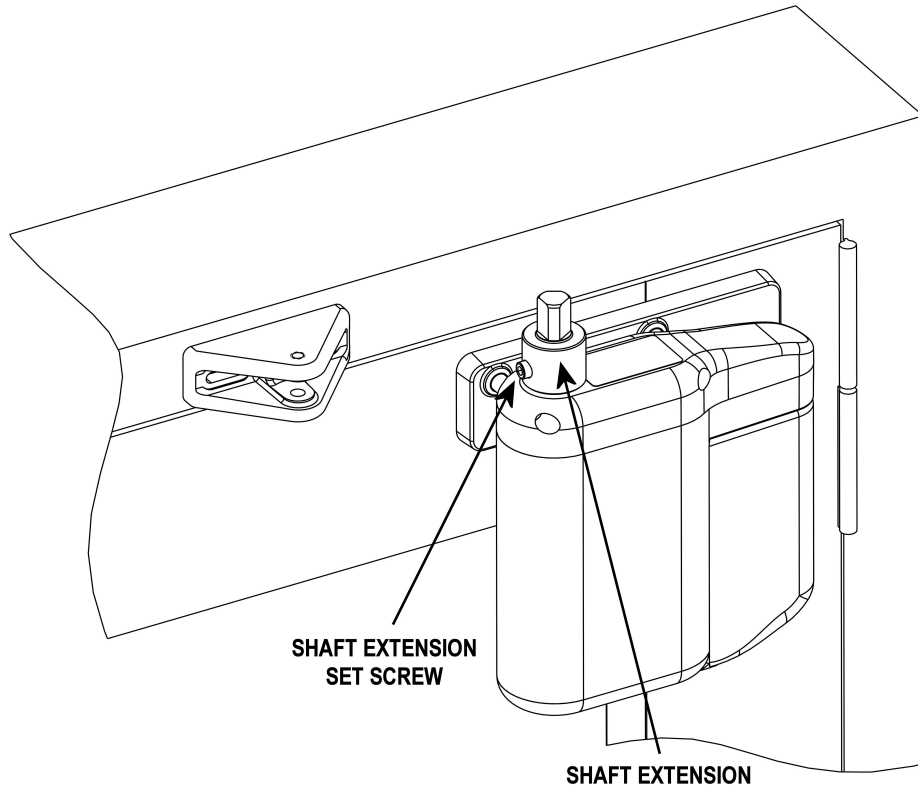

Figure 23
1. Refer to Figure 23, and INSTALL shaft extension onto operator shaft.